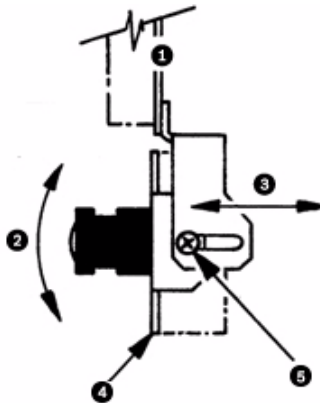

Figure 3.6 Camera Directional Alignment
4. If you must adjust the camera's viewing angle or picture quality, remove the Camera/LED Array Assembly. Refer to *Figure 3.6*.